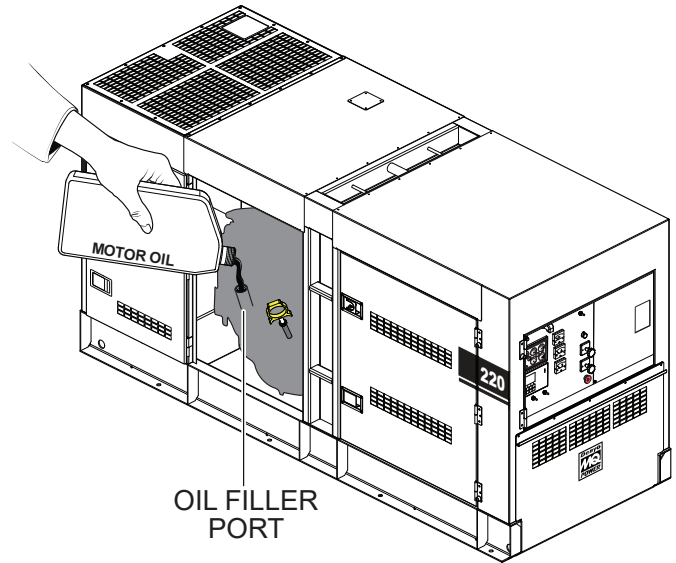

**Figure 34. Engine Oil Dipstick Level**
3. Reinsert the dipstick, then remove the dipstick from its holder. Check the oil level shown on the dipstick (Figure 34).